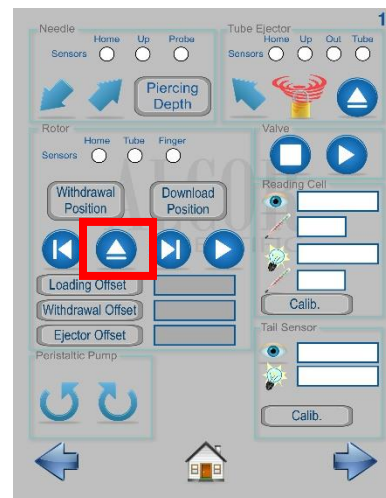

Figure 8
9. Press the reset rotor button highlighted in red in Figure 8. This will return the bleach tube to the loading position. At this point the tube can be removed and discarded.